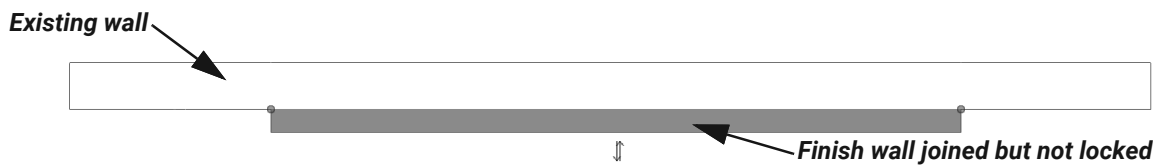

Figure 7–15
3. Draw the wall along an existing wall, as shown in Figure 7–15.